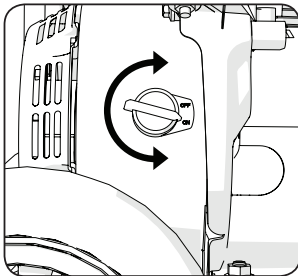

Fig 13
- Turn the engine ignition switch to the 'ON' position. **(Fig. 13)**